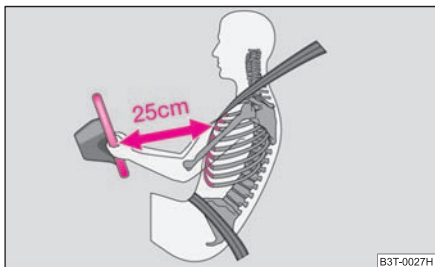

Fig. 120 Safe distance to steering wheel
- The driver must maintain a distance of at least 25 cm to the steering wheel ⇒ fig. 120. Not maintaining this minimum distance will mean that the airbag system will not be able to properly protect you - hazard!